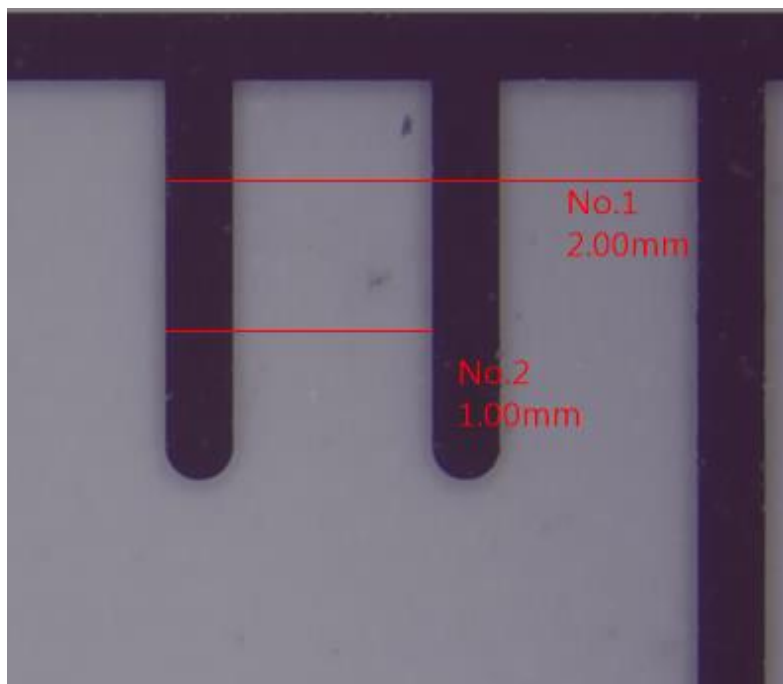

Fig. 5-20 Multi-Line measurement
(16) Erase All : Whenever to delete all of measuring data at one time, that can apply  tool.
(17) Multi-Line : Whenever to multiple measuring that can apply  tool, i.e. measure several items on one picture. See Fig. 5-20 shown